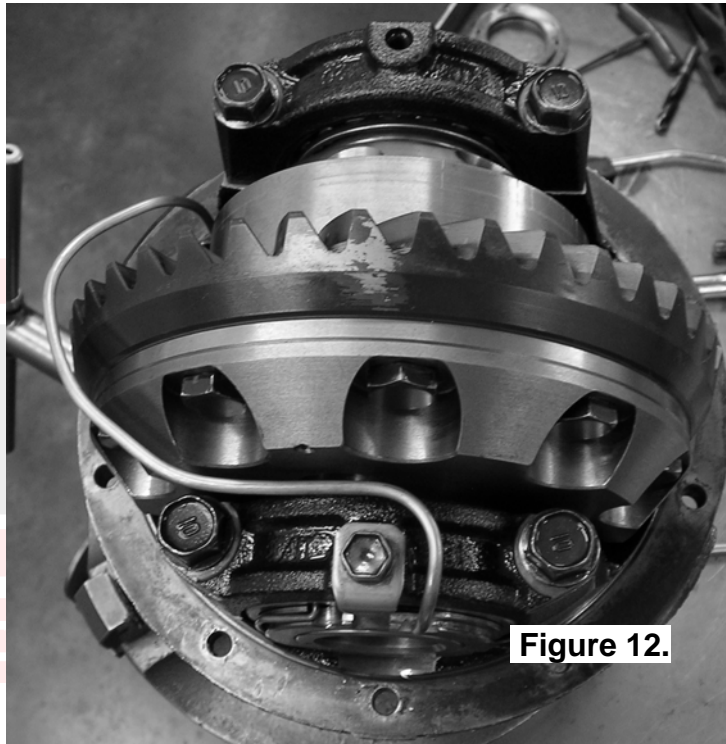

Figure 12.
- With the seal housing tube now firmly secured into the bulkhead fitting, bend the tube so that it closely follows the profile of the differential. (Figs.12.,13. & 14.)